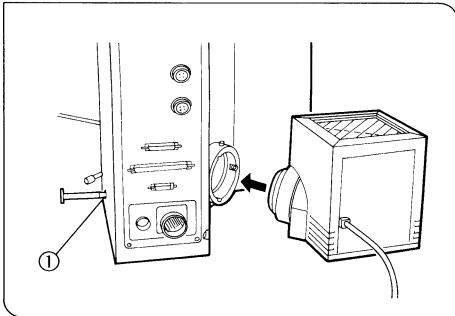

Fig. 10
6 Attaching Lamp Housing to the Microscope (Figs. 10,11)
1. Using the Allen screwdriver ①, fully loosen the lamp housing clamping screw on the side of the microscope.
2. Insert the lamp housing collector unit into the opening in the microscope frame until it touches the lamp housing mounting collar on the back of the base (lower part). While ensuring that the lamp housing is not tilted, tighten the clamping screw ①. (Fig. 10)